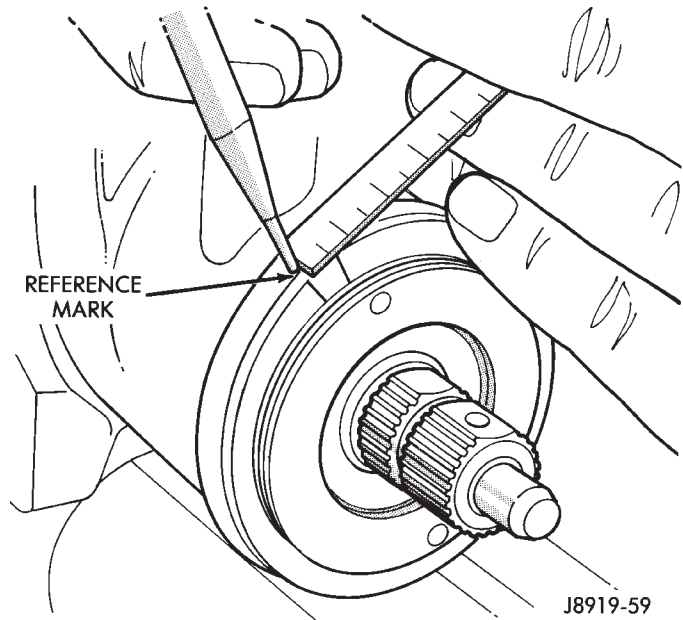

Fig. 26 Second Marking On Housing
- (6) Measure back (counterclockwise) 13 mm (0.50 in) and mark housing (Fig. 26).